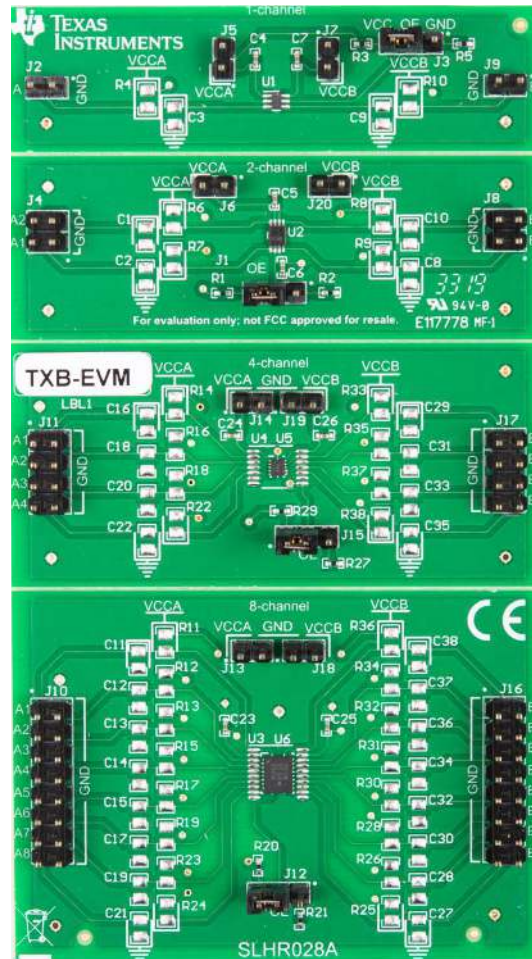

Figure 1-1. TXB-EVM
TXB-EVM is shown in Figure 1-1. Table 1-2 shows the packages supported by the TXB-EVM.
Each data I/O trace connects to an 0805 surface mount (SM) pad with access to V_{CC} for customizable pull-up resistors and a 0805 SM pad with access to GND for a customizable load. Large pads were chosen for ease of access and the option to compose a load out of multiple, smaller, SM components if desired (for load tests, propagation delay, rise/fall time adjustments, etc.). Figure 1-1 shows the SM pad locations. Pull down pads are marked with a ground symbol, pull up pads are marked with a power port symbol on the board.